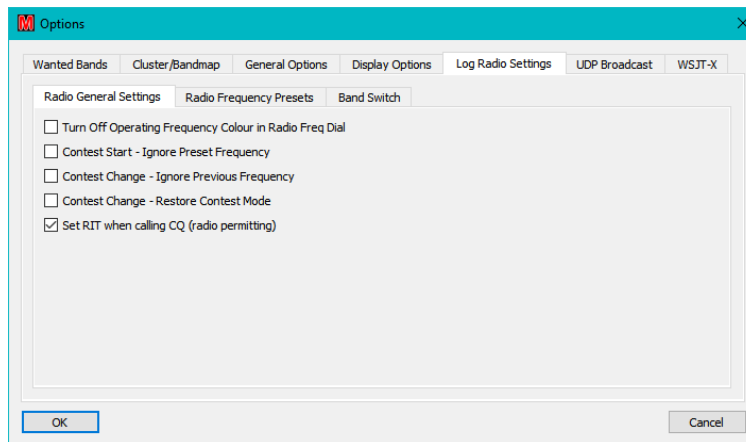

Figure 84 – Radio General Settings
- In ‘**Radio General Settings**’ (Figure 84) there are three options⁷⁷ to control the usage of band presets and per contest frequencies/modes: